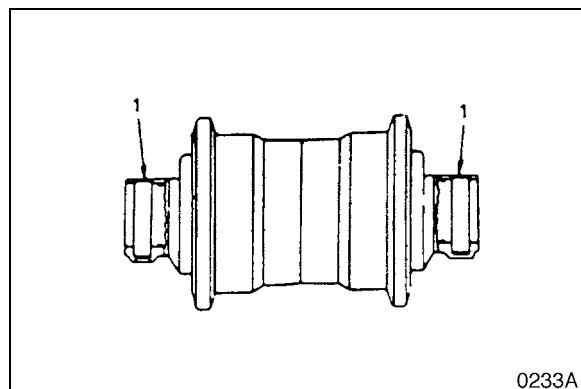

Figure 29
2. Pull the pin (1, Figure 29) from the collar.